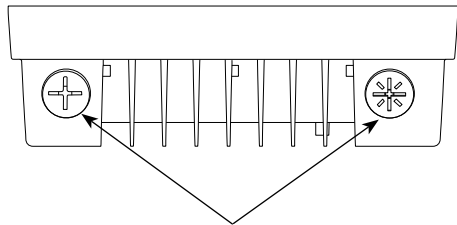

Fig: 5
1. Remove **Selector Switch Caps** by turning counter clockwise using a flat head screwdriver **Fig. 5**.
2. Make appropriate wire connections per NEC in an approved enclosure (*not included*) see **Fig. 5**.
Follow the wiring directions as shown in **Fig. 5**.